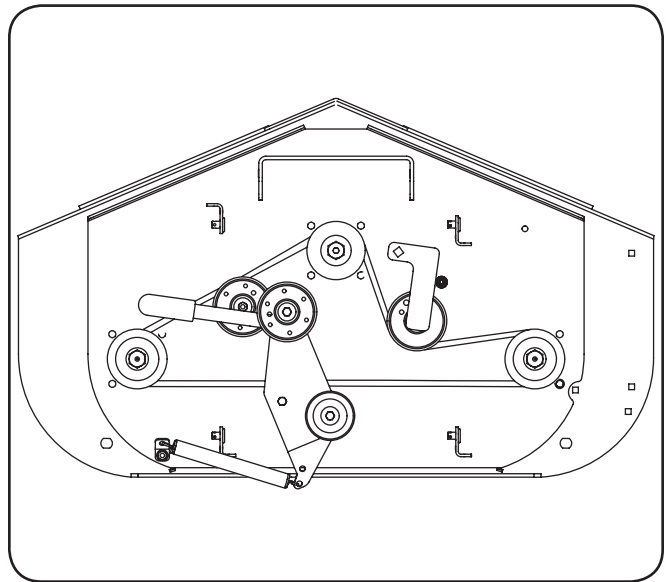

Figure 7-5
- Reverse the process to install the belt. See Fig. 7-5 for proper belt routing.